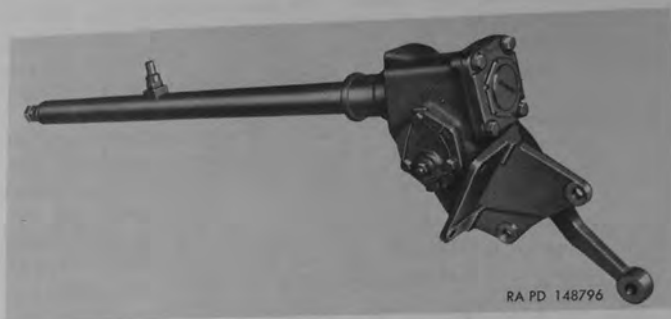

Figure 186. External view of steering gear assembly.
a. *Cleaning Assembly*.—Clean exterior of entire steering gear assembly (fig. 186) with dry-cleaning solvent or volatile mineral spirits before attempting to disassemble the unit.